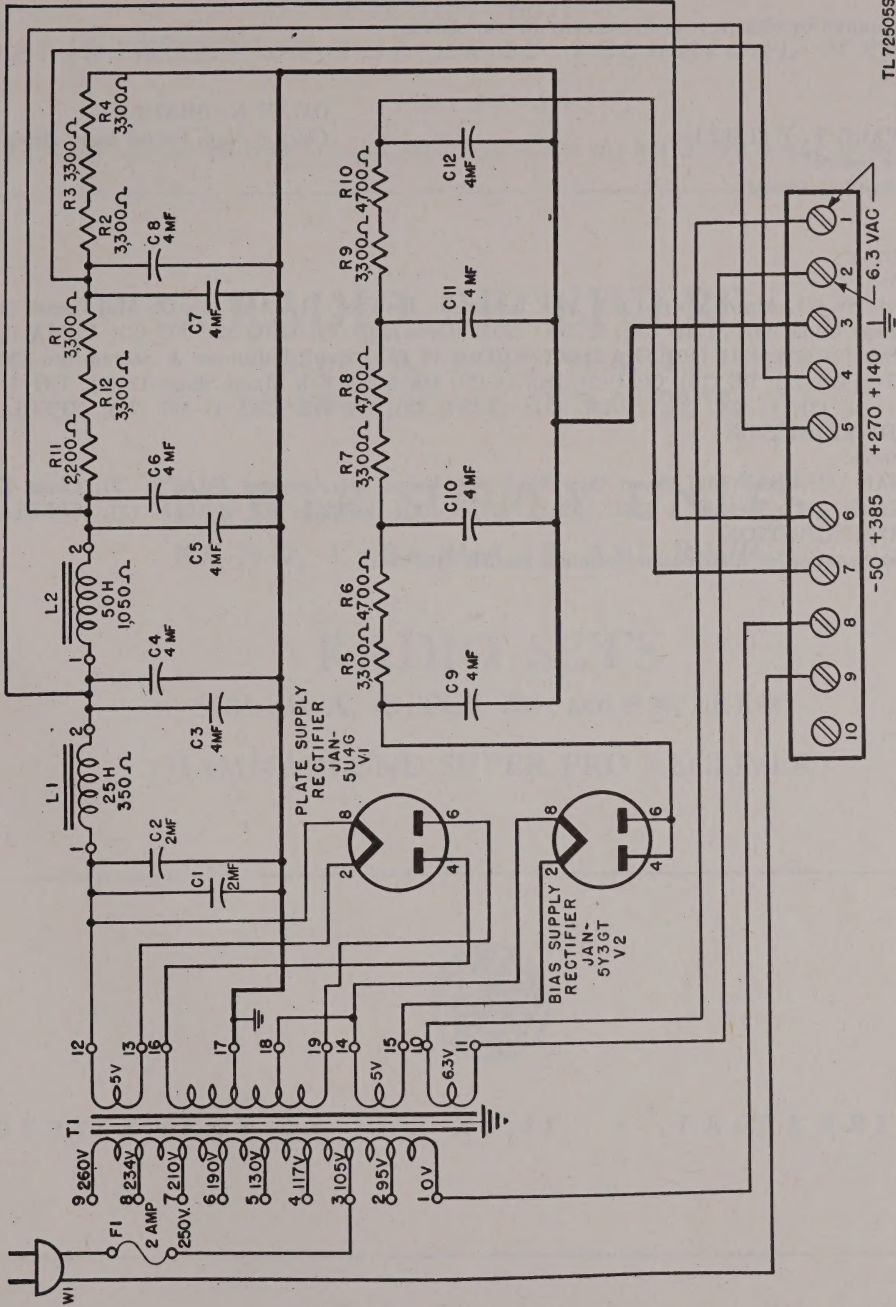

Figure 50.1 (Added.) Power Supply Unit RA-74-D, schematic diagram.
Power Supply Units RA-74-B, -C, RA-84-(*), and RA-94-A are electrically alike except for variations in power transformers T1, T2, and T3 (figs. 50, 51, and 52). The output of * * * input requirements vary. Power Supply Unit RA-74-D is electrically similar to Power Supply Units RA-74-B and RA-74-C except for the following: types of tubes used, d-c resistance of L2, number and values of resistors, value of plate supply filter input capacitor, values of bias filter capacitors, reference symbols, and transformer wiring connections (fig. 50.1). Also, the physical location of the resistors and capacitors in Power Supply Unit RA-74-D with serial numbers 1 through 390, Order No. 12618-Phila-47, is not the same as their location in Power Supply Unit RA-74-D with serial numbers 391 through 791, Order No. 6036-Phila-48.
a. Power transformer T1 (fig. 50.1) is connected to the power source by line cord W1 and is fused by 2-ampere, 250-volt fuse F1. Terminals 8 and 9 of terminal strip E1 are connected when the receiver ON-OFF switch is closed, thus completing the primary circuit of the transformer. The average power consumed is 180 watts.